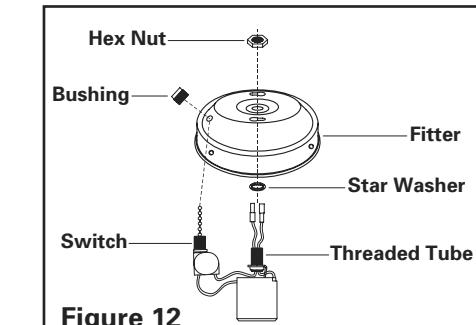

Figure 12
- If you want to replace the fitter for the fan light kit, please loosen the hex nut and bushing to release the fitter (See figure 12).
- When re-installing, please place the fitter, star washer over the threaded tube, then tighten with hex nut. Take the switch through the side hole of the fitter then tighten with the bushing. (See figure 12).